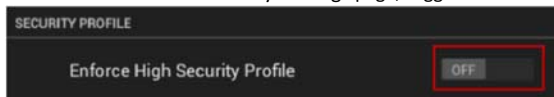

FIG. 95 SECURITY PROFILE - Enforce High Security Profile option
1. On the SYSTEM > Security Settings page, toggle the **Enforce High Security Profile** option to **ON** (FIG. 95): .